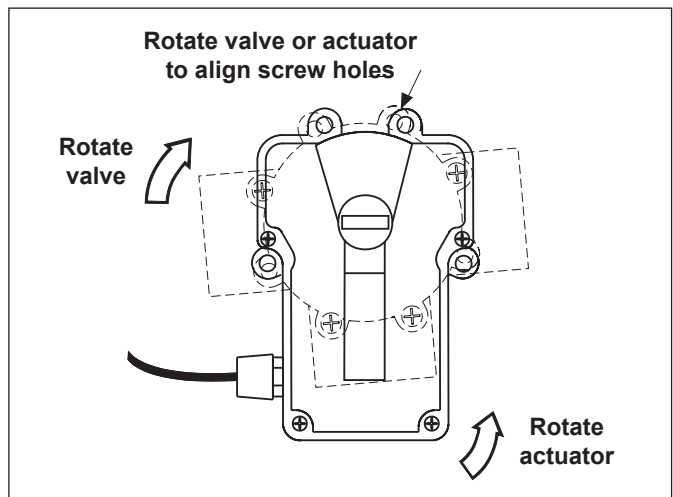

Figure 6. Actuator Mounting
5. Rotate the actuator while keeping the two shafts engaged until the screw holes on the actuator legs align with the empty screw holes (from step 2) in the valve (see Figure 6).
6. Use the four (4) large 2" Phillips head screws (included with the JVA) to secure the JVA to the valve.